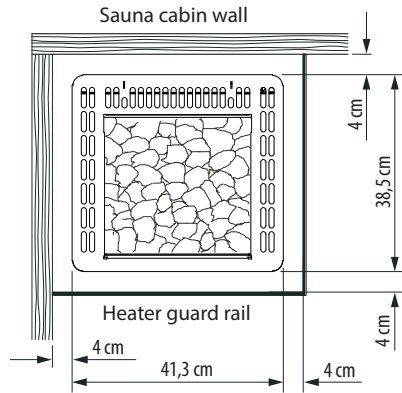

Fig. 2
- Make sure to maintain at least **4 cm** horizontal gaps between the heater and sauna cabin wall (see Fig. 2).